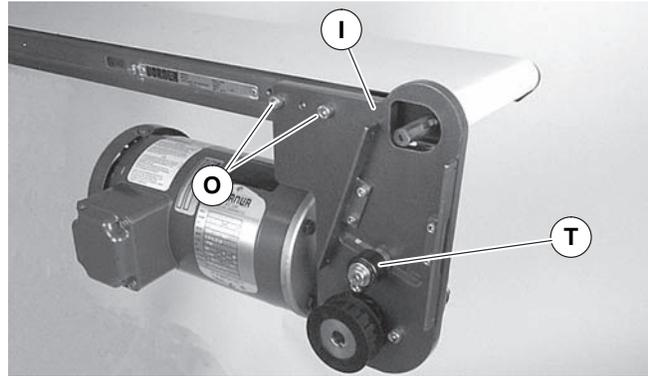
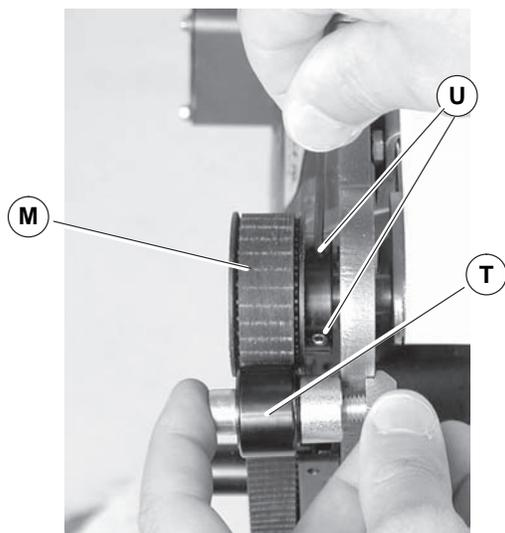

Figure 13
Figure 15
- Attach mounting assembly (Figure 13, item I) with screws (O). Tighten to 80 in-lb (9 N-m).
- Remove cam bearing and spacer (Figure 13, item T). Place the cam bearing and spacer (Figure 15, item T) next to the driven pulley (M). Ensure the flanges of the driven pulley are aligned with the cam bearing. Tighten driven pulley set screws (U). This will allow for proper belt alignment while conveyor is in use. Replace cam bearing and spacer (T).